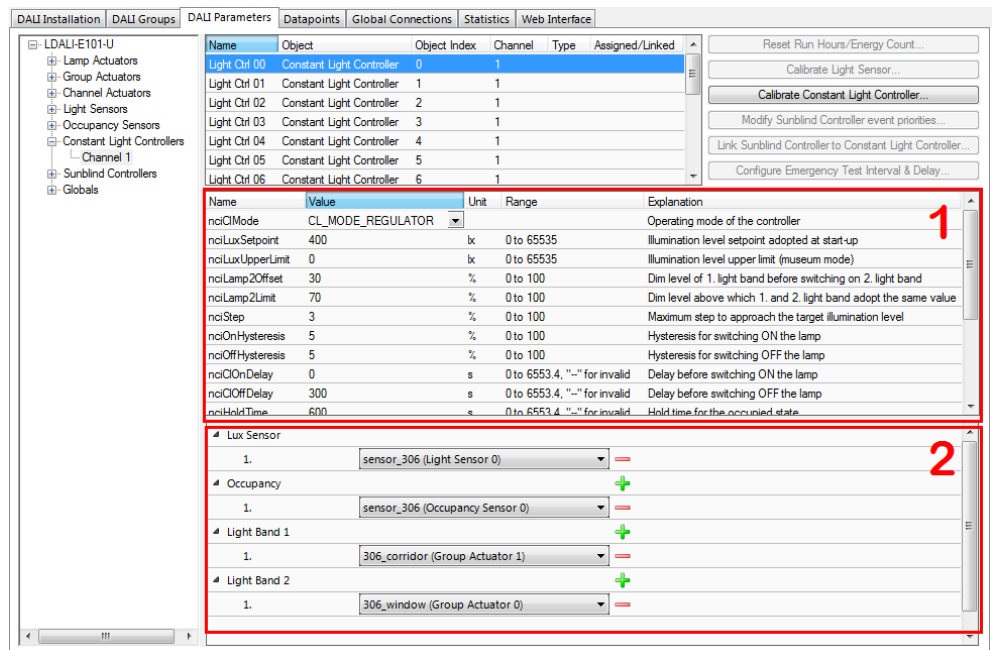

Figure 21: Parameterize Constant Light Controller.
2. Select the constant light controller with index 0 as shown in Figure 21. The parameters of the selected constant light controller are displayed in the middle of the window (1).